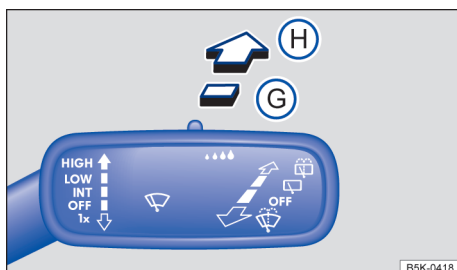

Fig. 81 Operating the rear wiper.
→ fig. 81 , → ①:
- ⑧ Intermittent wiping for the rear window. The wiper wipes about every 6 seconds.
- ⑨ Press the lever forward as far as it will go to activate the rear window washers, then release to stay in intermittent wiping mode (position ⑧). Pull the lever toward the steering wheel to turn the rear wiper off.